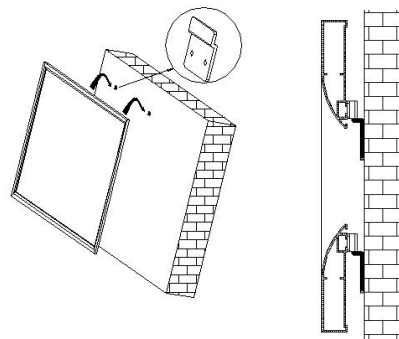

Fig 16.
3. Mount the mounting bracket (C) with the self-tapping screws (F) and the plastic dowels (K) in a load-bearing surface. Please use suitable mounting material for your surface.
4. Hang the screen on the mounting brackets according to Fig. 16.